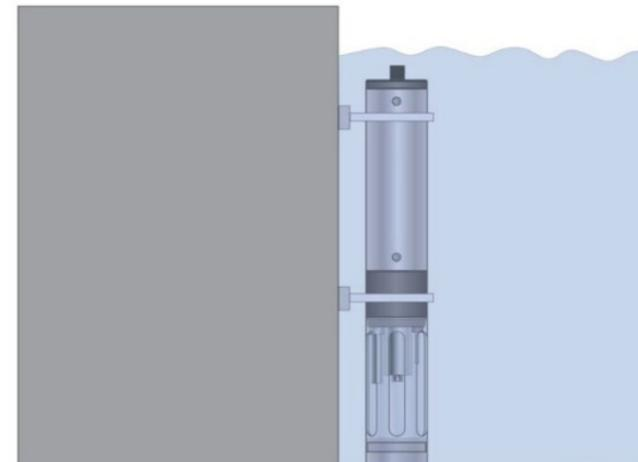

Figure 19: Installation of Proteus in open water with Sensor Guard and support structure.
1. Remove the reference cap, also known as the Teflon junction, by unscrewing it from the reference sleeve and discard the old reference electrolyte fluid (Figure 19).